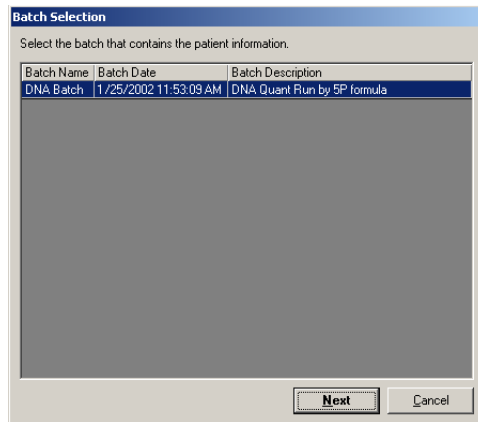

Figure 5-58. Batch Selection Dialog Box
2. Select the type of report that you want to print and click **Next**. For the Analyte, Clinical Patient, and Batch Summary Reports, the **Batch Selection** dialog box opens. Select the batch to print. See Figure 5-58. For the Quality Control, Maintenance, Calibration Trend, and System Control Trend Reports, a dialog box related to the specific report opens. The system information may vary depending on the type of report you select.